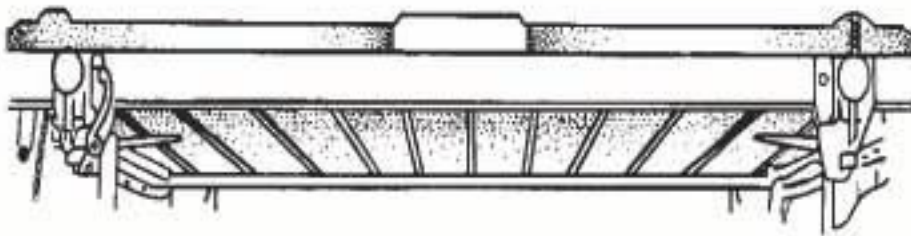

Figure 5-13. Fast Rope Anchor Bar
a. The CH-53D fast rope anchor bar secures to two permanently installed brackets mounted on each cabin bulkhead at fuselage station (F. S.) 631.5 just aft of the ramp. The anchor bar can be easily removed when not in use (Figure 5-13).